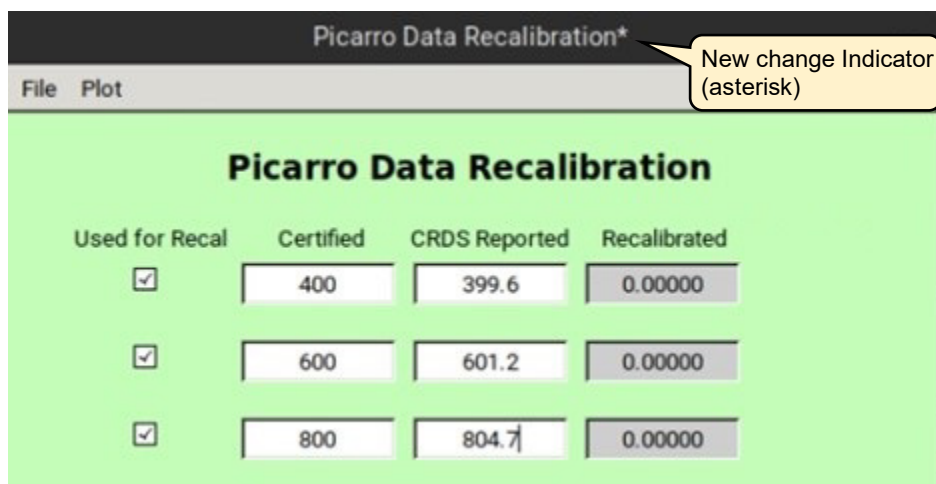

Figure 38: Recalibration Section of Data Recal Software Utility GUI
1. **Numerical Input** and **Selection** sections (Figure 38):
In this section, the user can click on the **Compute** button to calculate the new calibration parameter(s). The compute button will be grayed out until values have been entered in the Certified and CRDS reported columns (Figure 38), and at least one pair of Certified and CRDS reported values
selected for the calibration. Once these values are entered or selected, the **Compute** button will be active. Click **Compute** to calculate the new calibration parameters. These parameters will appear in the Calibration output section of the GUI, and an asterisk "*" will be displayed at the end of the window title line (Figure 38), indicating the new change.